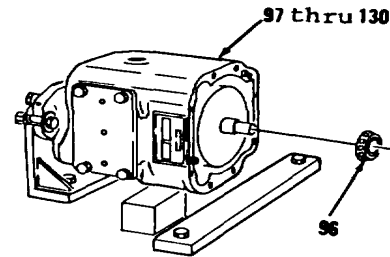

Figure 10-33.
- 44. Using protective plate and suitable puller, remove bearing (96, Figure 10-33).
- 45. Remove items 97 thru 130 as an assembly from fixture and install on block.